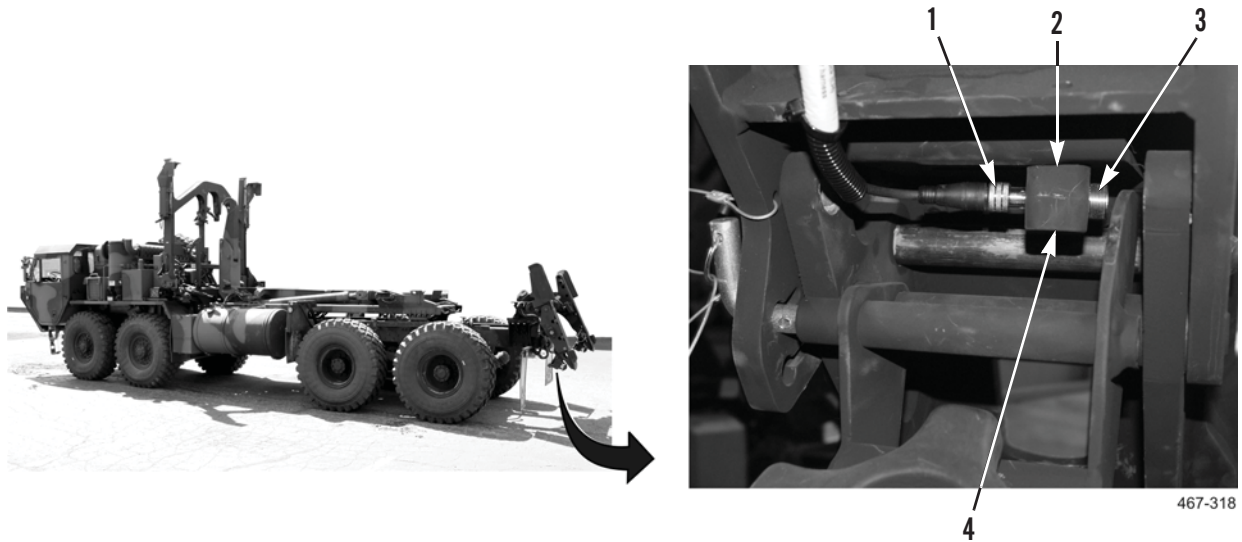

Figure 3. Twistlock Sensor.
1. Disconnect electrical connector (Figure 3, Item 1) from twistlock sensor (Figure 3, Item 3).
2. Loosen two bolts (Figure 3, Item 4) in cable clamp (Figure 3, Item 2).
3. Remove twistlock sensor (Figure 3, Item 3) from cable clamp (Figure 3, Item 2).